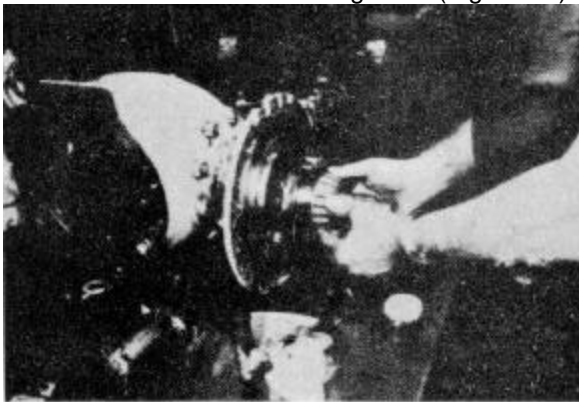

Figure 5-32
- Remove the inside hub bearing cone (Fig. 5-32).